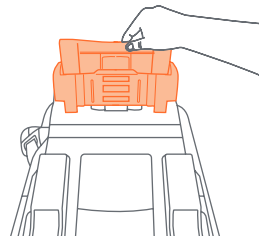

Fig. 58-1
- 4- Gently Move elevation foot, back and forth to confirm the elevation foot is in the locked position (Fig. 58-1).